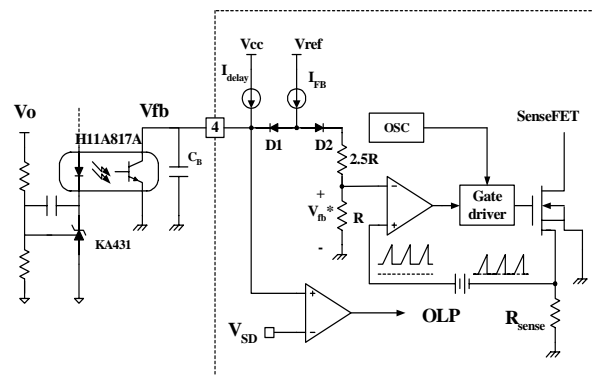

Figure 5. Pulse width modulation (PWM) circuit
2. Feedback Control : FSDM07652RB employs current mode control, as shown in Figure 5. An opto-coupler (such as the H11A817A) and shunt regulator (such as the KA431) are typically used to implement the feedback network. Comparing the feedback voltage with the voltage across the R_{sense} resistor plus an offset voltage makes it possible to control the switching duty cycle. When the reference pin voltage of the KA431 exceeds the internal reference voltage of 2.5V, the H11A817A LED current increases, thus pulling down the feedback voltage and reducing the duty cycle. This event typically happens when the input voltage is increased or the output load is decreased.
2.1 Pulse-by-pulse current limit: Because current mode control is employed, the peak current through the Sense FET is limited by the inverting input of PWM comparator (Vfb*) as shown in Figure 5. Assuming that the 0.9mA current source flows only through the internal resistor (2.5R + R = 2.8 kΩ), the cathode voltage of diode D2 is about 2.5V. Since D1 is blocked when the feedback voltage (Vfb) exceeds 2.5V, the maximum voltage of the cathode of D2 is clamped at this voltage, thus clamping Vfb*. Therefore, the peak value of the current through the Sense FET is limited.